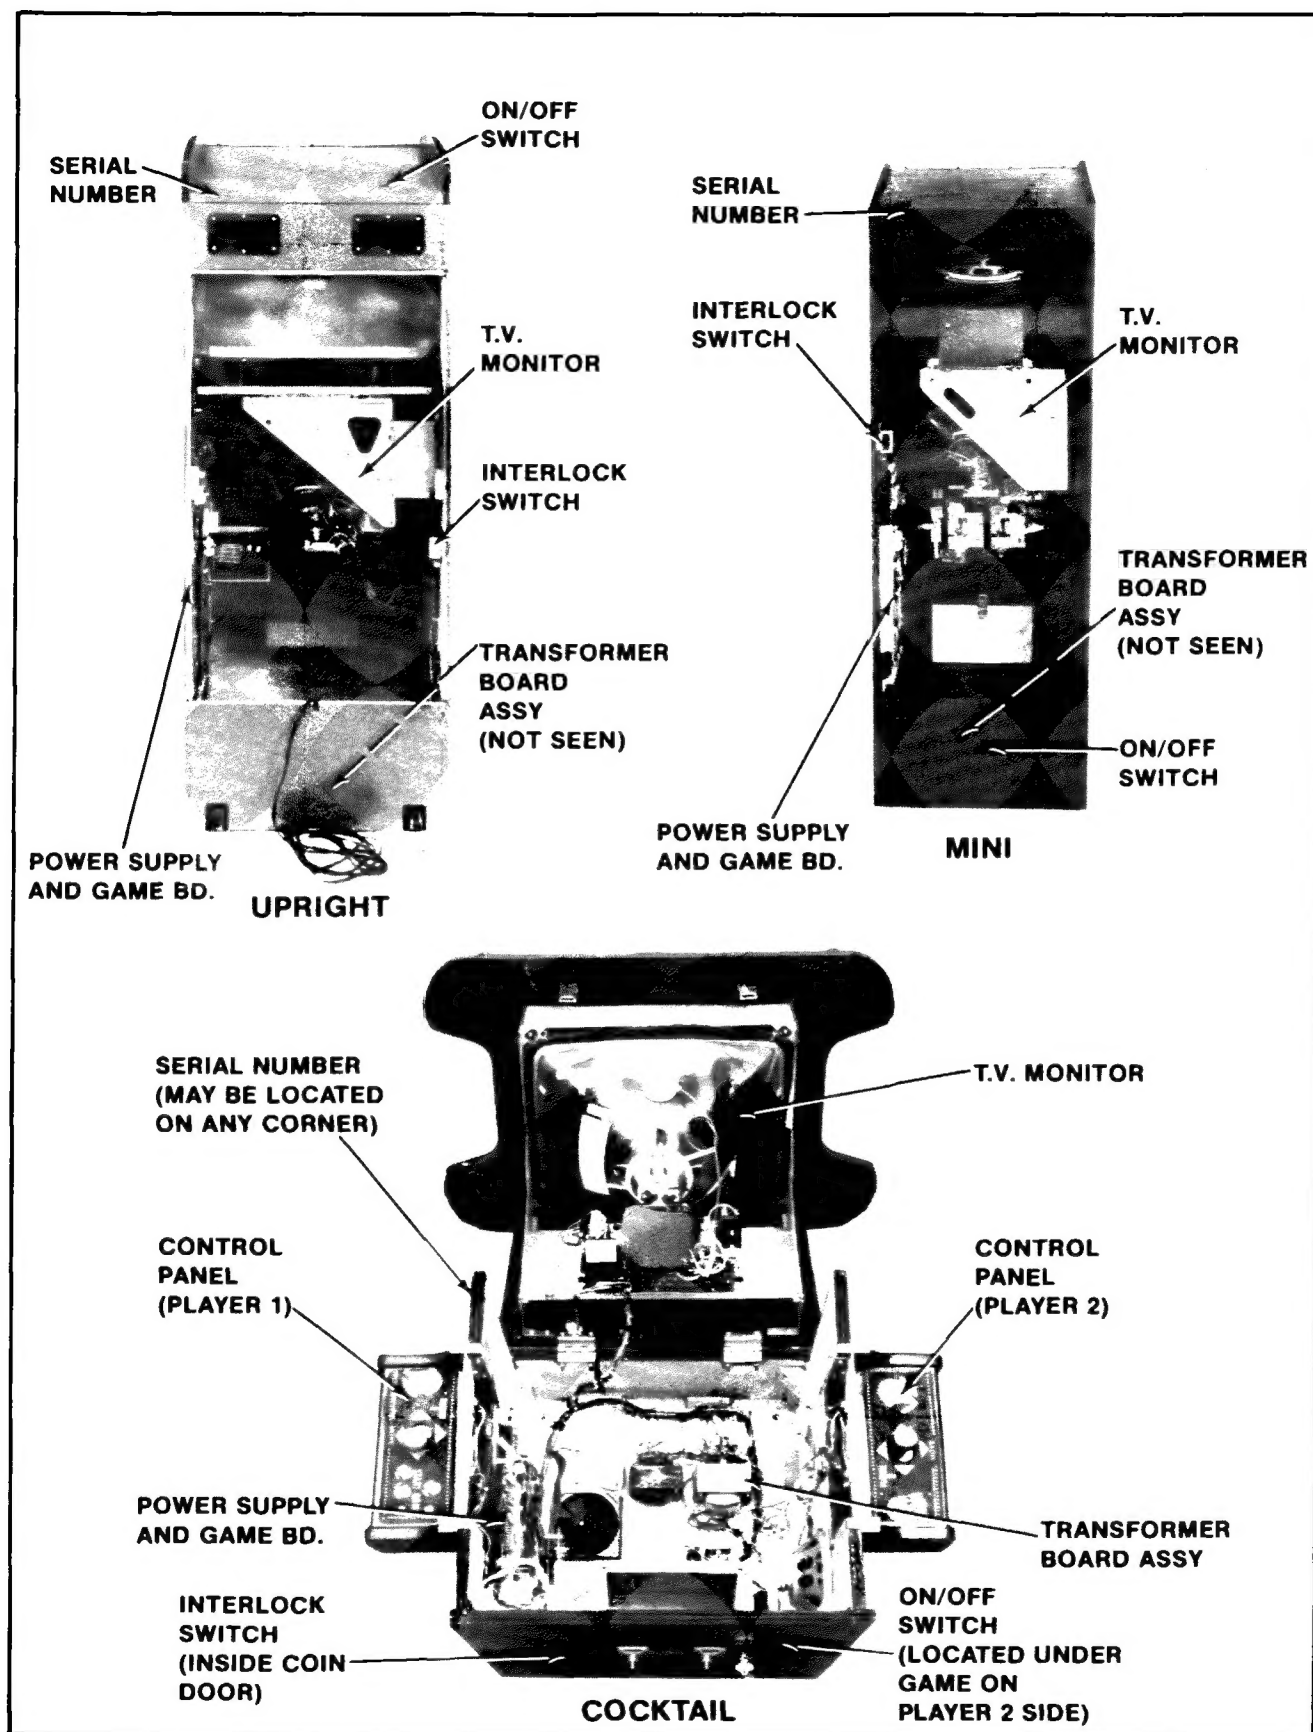

Figure 2 Location of serial number, on/off switch, interlock switch & major sub-assemblies
5. Open the cabinet and inspect the inside of the game for any signs of damage. See Figure 2.
- Make sure all printed circuit boards (P.C.B.'s) are firmly seated in their connectors. See Figure 2. These connectors are also keyed. The P.C.B.'s will only go into them one way without being damaged.
- Note the location of the game's serial number. See Figure 2.
- Check all major subassemblies to be sure they are mounted securely. These are called out in Figures 2 & 3.
3. Interlock and power ON/OFF switches. See Figure 2.
The game ON/OFF switches for all models are located as shown in Figure 2. Turn the game on and allow it to warm up a few minutes.